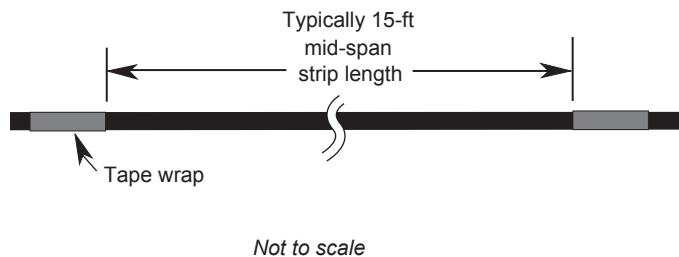

Figure 12
Step 1: Identify the location to access the jacket for mid-span cable entry (typically 15-ft in length) and mark each end with a wrap of tape (Figure 12).